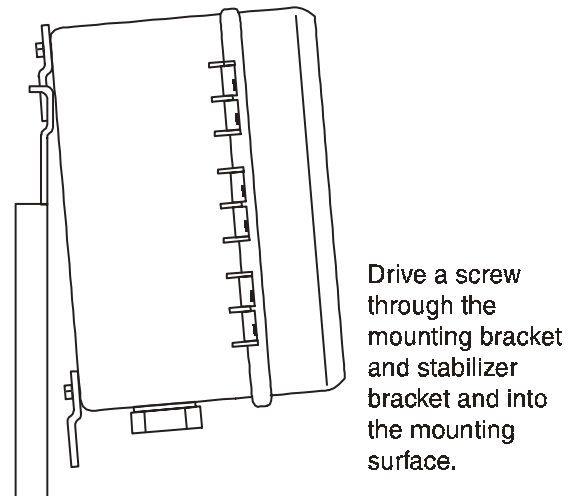

Figure 5
- Hang the unit on the stabilizer bracket, ensuring that the top mounting bracket is resting between the two tabs on the stabilizer bracket (Figure 5).